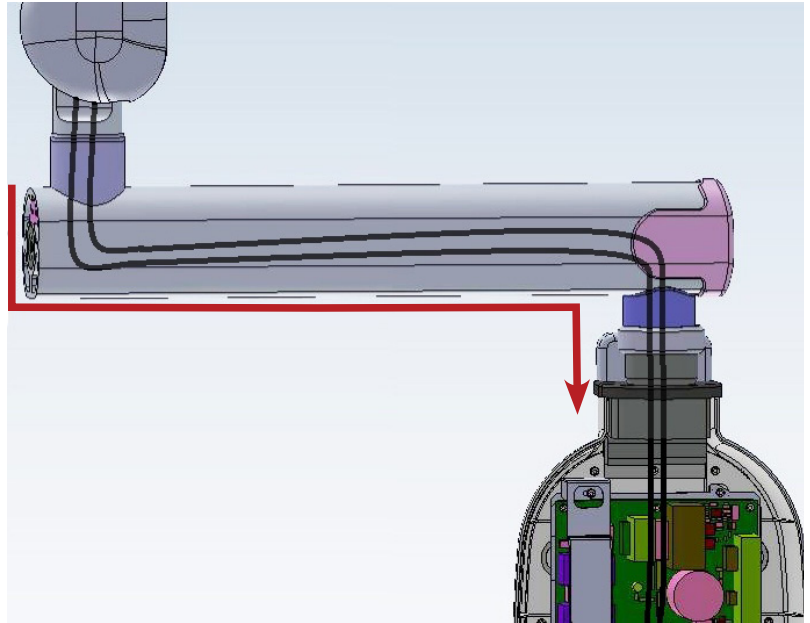

Figure 26
- Route the scissor-arm cables through the straight-arm till it comes inside the base unit as shown in Figure 26 (Use guide wire for routing and guide with finger from the slots available bottom side of the straight arm).